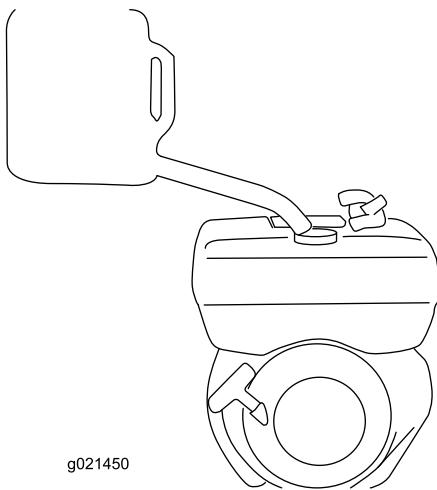

Figure 10
- 4. Add diesel to the fuel tank. (Figure 10).